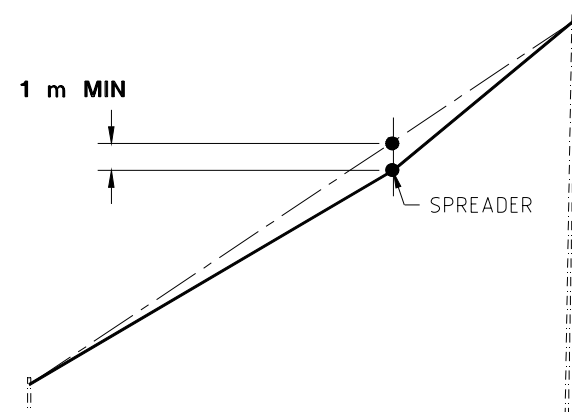

Figure 5-1 Antenna Element Sag
- The antenna elements have the required sag as shown in *Figure 5-1*. Use the halyard for adjustment.